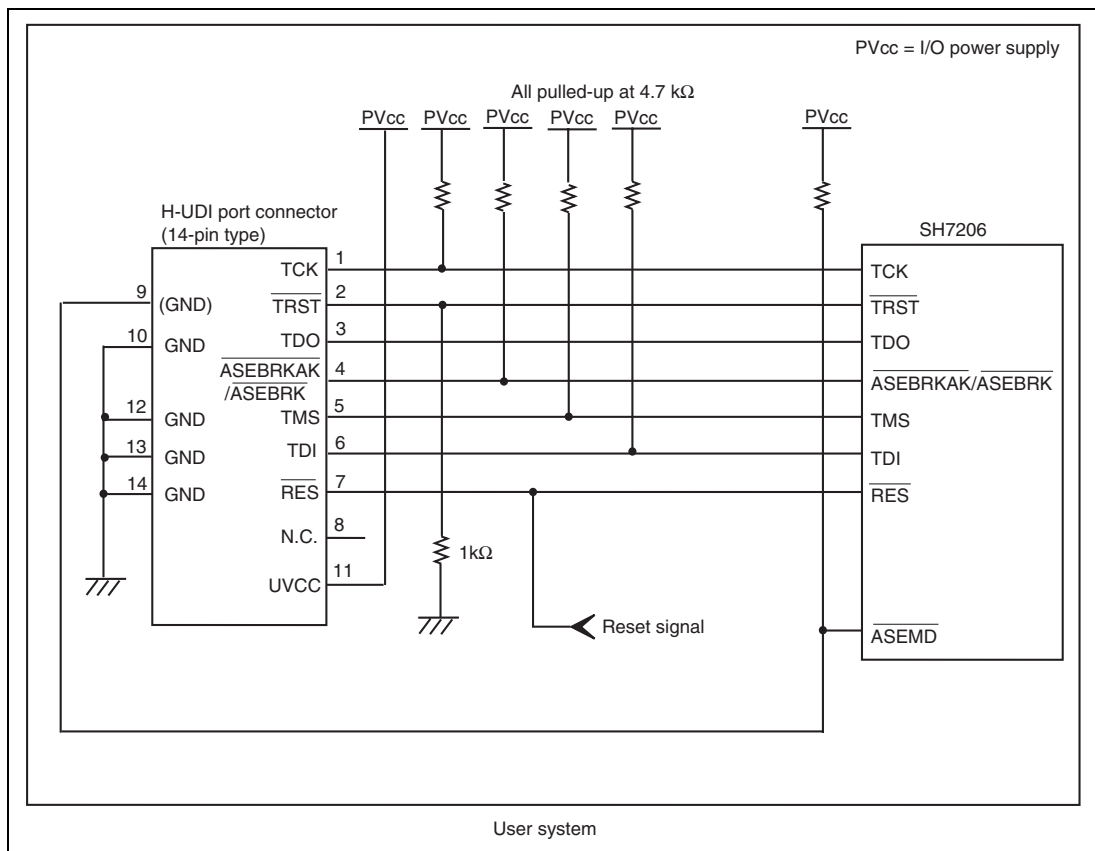

Figure 1.6 Recommended Circuit for Connection between the H-UDI Port Connector and MCU when the Emulator is in Use (14-Pin Type)
Figure 1.6 shows a recommended circuit for connection between the H-UDI port connector (14 pins) and the MCU when the emulator is in use.
- (1) When the emulator is used: `_ASEMD = 0`
- (2) When the emulator is not used: `_ASEMD = 1`Figure 1.6 shows an example of circuits that allow the `_ASEMD` pin to be GND (0) whenever the emulator is connected by using the user system interface cable. When the `_ASEMD` pin is changed by switches, etc., ground pin 9. Do not connect this pin to the `_ASEMD` pin.
6. The resistance value shown in figure 1.6 is for reference.
When the circuit is connected as shown in figure 1.6, the switches of the emulator are set as SW2 = 1 and SW3 = 1. For details, refer to section 3.8, Setting the DIP Switches, in the SuperH™ Family E10A-USB Emulator User's Manual.